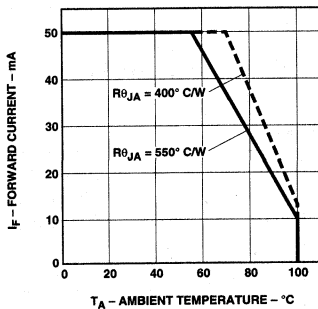

Figure 12. Maximum Forward Current vs. Ambient Temperature. Derating Based on  $T_j \text{ Max} = 110^\circ\text{C}$ .
- Derate linearly as shown in Figure 12.